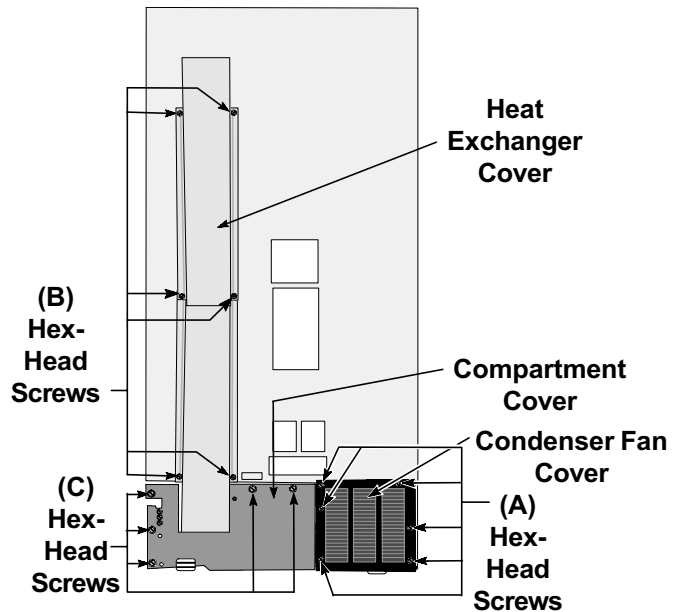

Fig. 8
1. Remove the six (6) hex-head screws securing the condenser fan cover to the cabinet. (Fig. 8-A)
2. Remove the six (6) screws securing the two sections of the heat exchanger cover to the back of the unit. (Fig. 8-B)
3. Remove the five (5) screws securing the component compartment cover to the cabinet. (Fig. 8-C)
4. Remove the two (2) screws securing the water supply valve to the base rail. (Fig. 8) **NOTE:** If a water supply valve is mounted on the bracket, it is not necessary to disconnect the copper supply tubing or the plastic supply tubing.